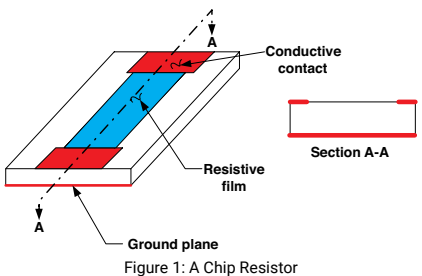
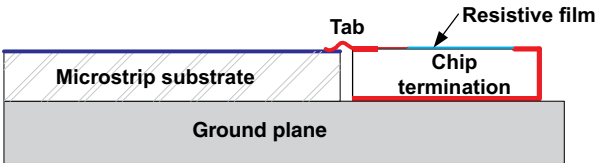
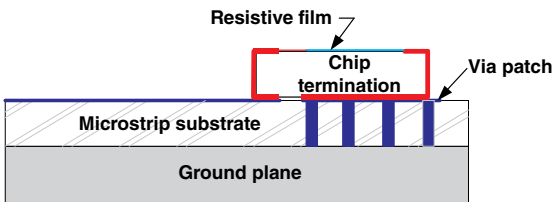

Figure 1: A Chip Resistor
Figure 3a: Ground plane-mounted chip
Figure 3b: Surface-mounted chip
**Figure 1** depicts a basic chip resistor consisting of a resistive film between two conductive terminations. A conductive ground plane covers the chip's bottom side. The chip body, or substrate, is comprised of AlN.
Both resistors and terminations are available in several different package styles. Those shown in Figs. 1 and 2 are meant to be mounted (usually by soldering) to a metallic ground plane, either in a cutout in a microstrip board or adjacent to a board edge (see **Figure 3a**). The contact area on the chip has a silver tab parallel-gap welded to it; the free end of the tab is soldered to the microstrip trace. Heat generated in the resistive film is conducted by the chip substrate to the ground plane. Other configurations are designed to avoid the necessity of a cutout or proximity to a board edge; these are so-called surface mount parts and are typically soldered to a via-patch on the PC board's top surface. The via patch transfers the generated heat to the ground plane (see **Figure 3b**). A schematic overview of the various chip configurations and their designations is shown in **Figure 4**. Note that the RP5 style has no ground conductor; heat from the resistive film can be removed only through the end contacts, by convection, or by radiation. In practice, all resistive films are covered with a thin layer of a special epoxy that helps protect against solvents, moisture, handling, and other environmental hazards. Other packaging options (not shown) include ceramic covers for additional environmental protection and marking, and flange mounts that enable parts to be screwed down to mounting surfaces rather than soldered.